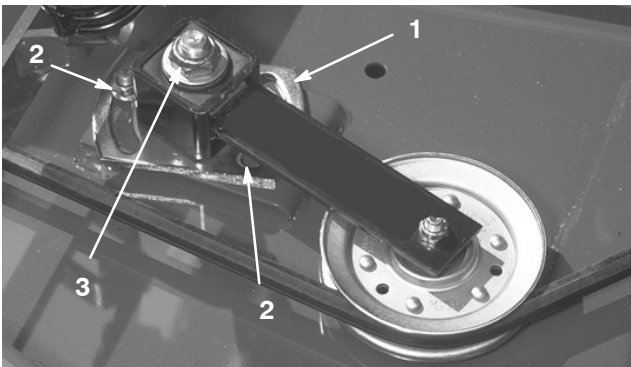

Figure 33
3. Loosen the 2 nuts securing the idler plate in place. Using a socket and torque wrench, tighten the idler adjusting nut to 25–30 ft.-lb. (24–41 N·m) (Fig. 33).